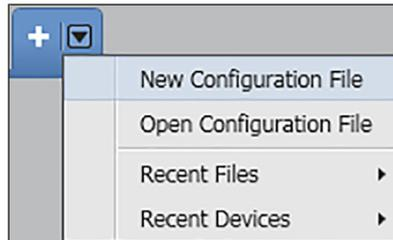

Figure 42. Configuration File Drop-Down Menu
1. Click the **TCP / IP** tab (see figure 42, **1**).